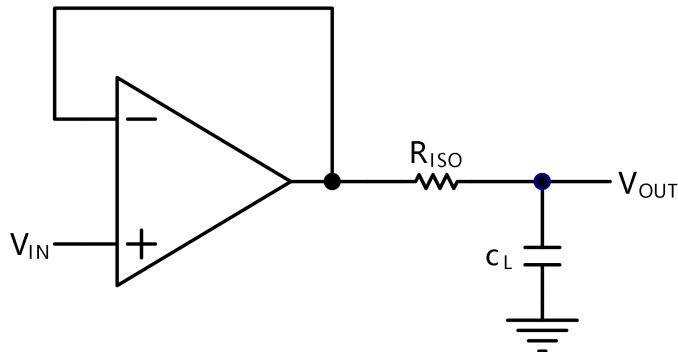
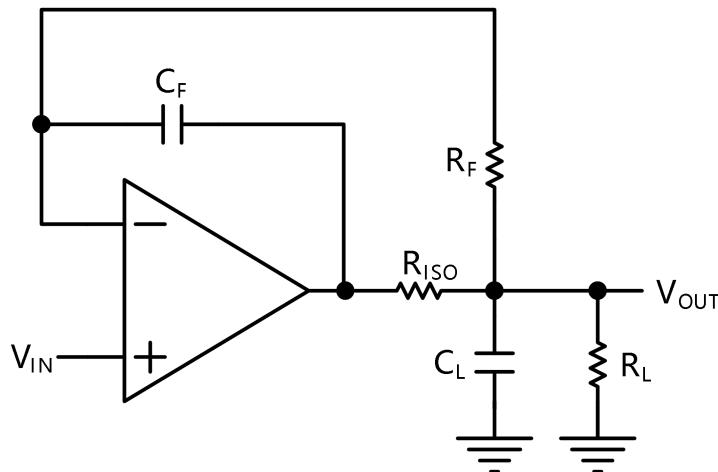

Figure 2. Indirectly Driving a Capacitive Load Using Isolation Resistor
Figure 3. Indirectly Driving a Capacitive Load with DC Accuracy
The CBM809X family is optimized for bandwidth and speed, not for driving capacitive loads. Output capacitance will create a pole in the amplifier's feedback path, leading to excessive peaking and potential oscillation. If dealing with load capacitance is a requirement of the application, the two strategies to consider are (1) using a small resistor in series with the amplifier's output and the load capacitance and (2) reducing the bandwidth of the amplifier's feedback loop by increasing the overall noise gain. Figure 2. shows a unity gain follower using the series resistor strategy. The resistor isolates the output from the capacitance and, more importantly, creates a zero in the feedback path that compensates for the pole created by the output capacitance.
The circuit in Figure 3 is an improvement to the one in Figure 2. R_F provides the DC accuracy by feed-forward the V_{IN} to R_L. C_F and R_{ISO} serve to counteract the loss of phase margin by feeding the high frequency component of the output signal back to the amplifier's inverting input, thereby preserving the phase margin in the overall feedback loop. Capacitive drive can be increased by increasing the value of C_F. This in turn will slow down the pulse response.